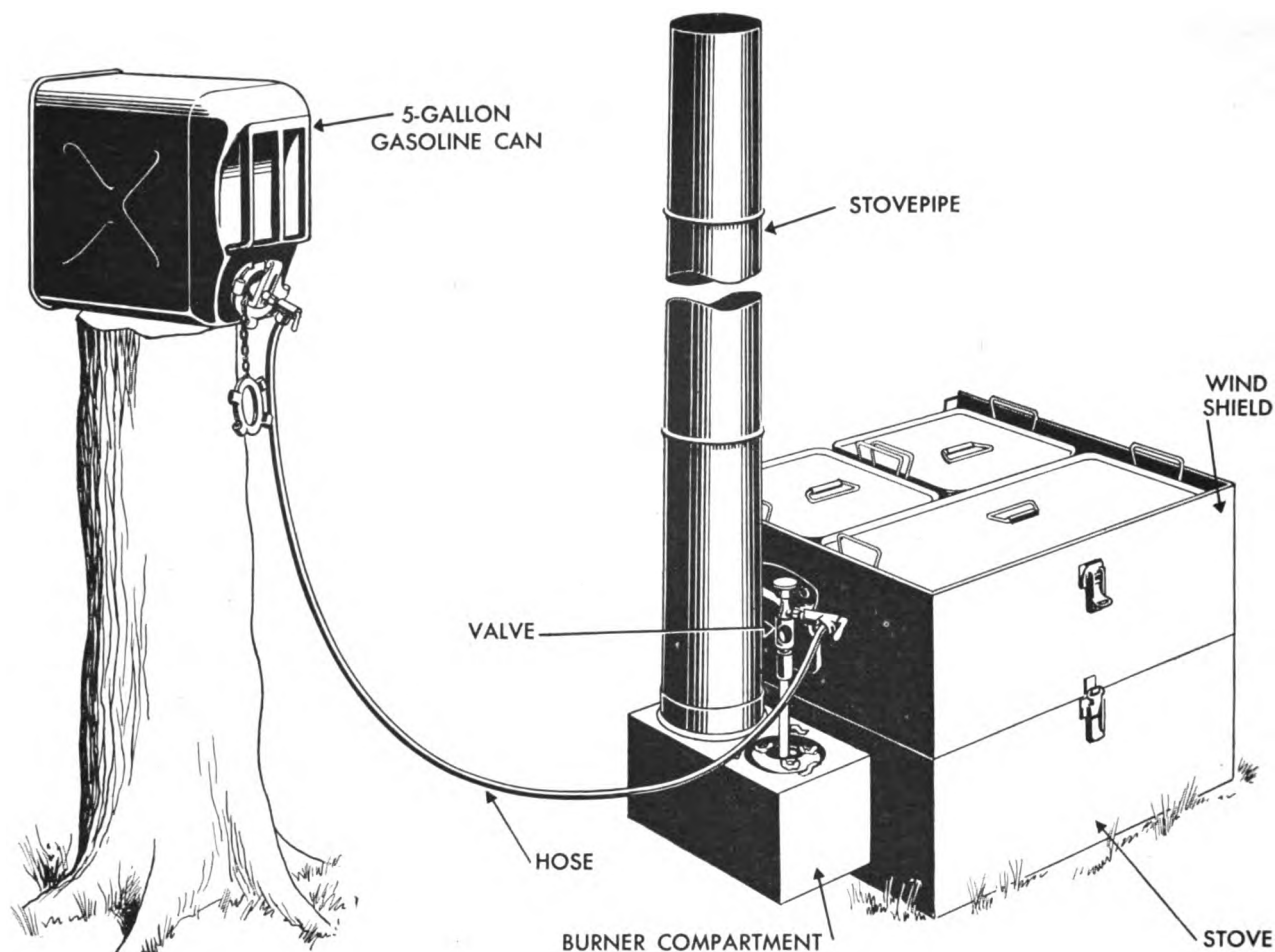

Figure 21. Outfit, cooking, small detachment (64-O-270). Fuel can is placed at higher level than stove to provide gravity-feed.
a. The small detachment cooking outfit (stock No. 64-O-270), (see fig. 21), is designed for the use of isolated detachments of troops numbering from 15 to 40. The unit, which is light and compact, may be easily carried in any vehicle. So that 2 men may transport the unit by packboard, it is split into 2 sections, each weighing approximately 40 pounds. A third man carries the 5-gal-
### 23. How to Assemble (see fig. 21)